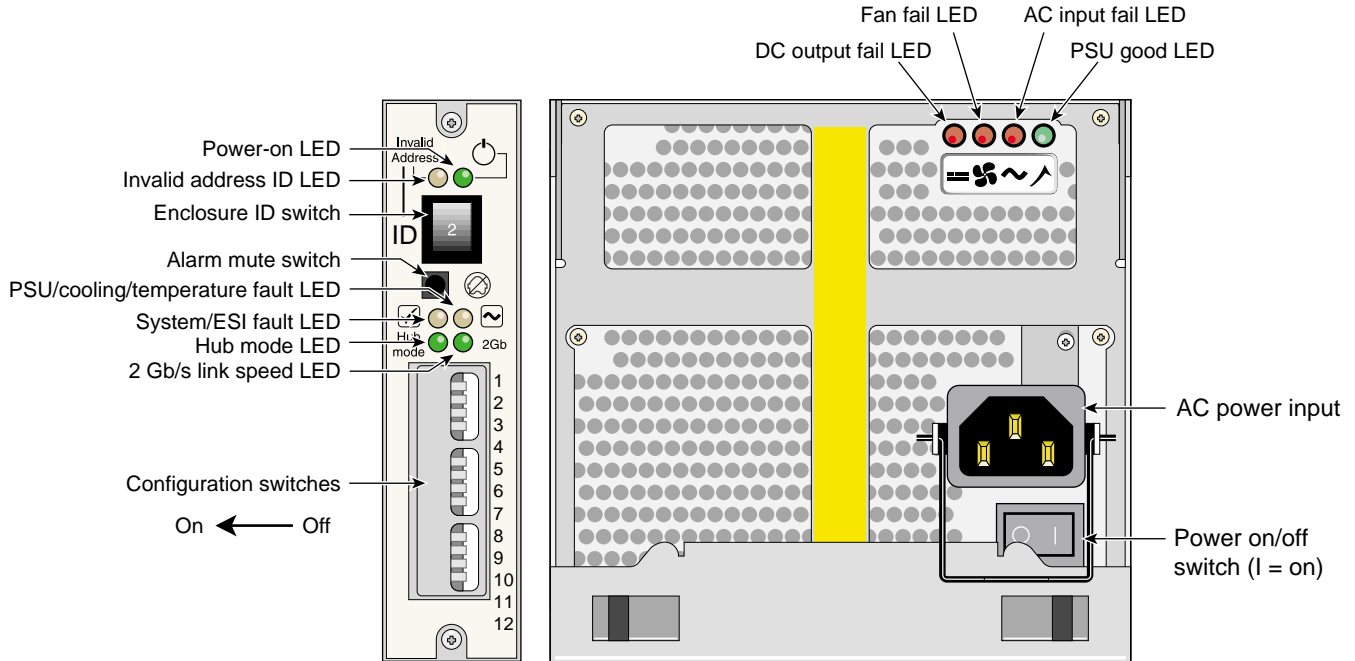

Figure 11-4 D-brick2 Operators Panel and Power Supply/Cooling Modules
Two power supply/cooling modules (PSUs) are mounted in the rear of the D-brick2. These modules supply redundant cooling and power to the enclosure and are auto-ranging. The supplies should be plugged into your SGI rack's power distribution unit (PDU). Four LEDs mounted on the rear panel of the PSU/cooling module indicate the status of the power supply and the fans (see Figure 11-4 on page 164).
Figure 11-4 identifies all controls and indicators on the ops panel. Note that the operator’s panel configuration switches slide left for “on” and right for “off.” For detailed descriptions of the LEDs and configuration switch information, see Chapter 5 in the *SGI Total Performance 9100 (2Gb TP9100) Storage System User’s Guide (P/N 007-4522-00x)*.
3. Turn the power switch on each PSU/cooling module to the “on” position (I = on, O = off). See Figure 11-4 on page 164 for switch locations.
The green “PSU good” LED illuminates. Also, the “power on” LED on the ESI/ops panel (see Figure 11-4 on page 164) of each module turns green when AC power is present.
1. Move the power switch on the rear of each PSU/cooling module to the “off” position (position **I** = on, **O** = off). See Figure 11-4 on page 164 for switch locations.